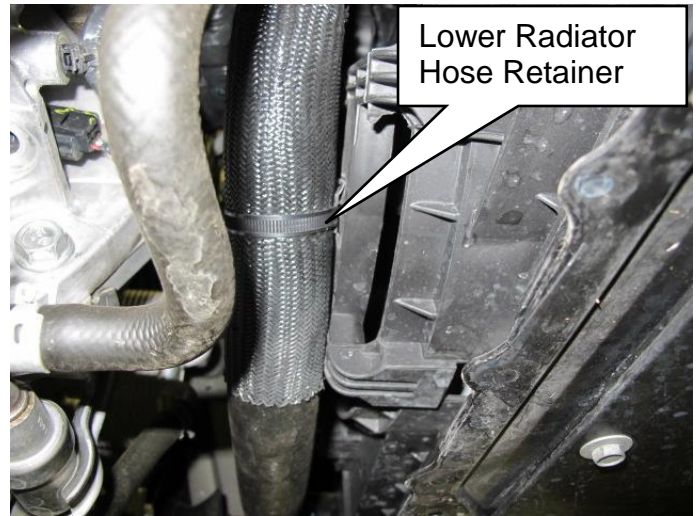

Figure 7
12. Disconnect the lower radiator hose retainer from the fan shroud and motor assembly (Refer to Figure 7).